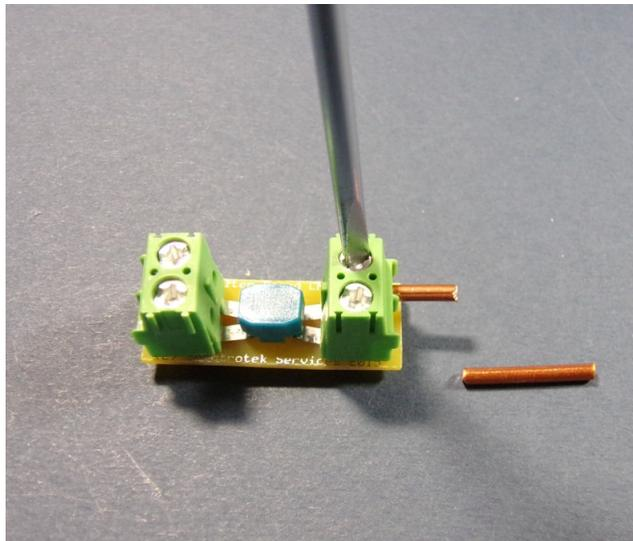

Figure 4.
10) As seen in the **Figure 4**, below, use a small screwdriver to gently tighten the terminal-strip screw just enough to prevent the wires from falling out of the terminal strip.